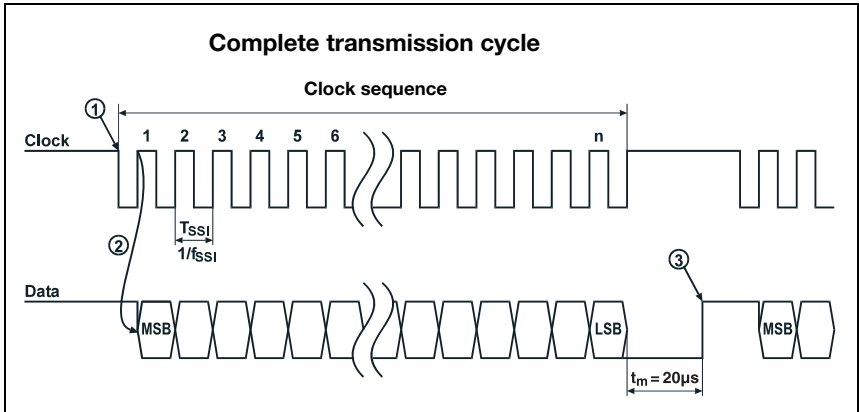

Figure 10.1: SSI data transmission sequence diagram
In the quiescent state both the clock line as well as the data line are at HIGH level. At the first HIGH-LOW edge (point ① in figure 10.1) the data in the internal register are stored. Thus it is ensured that the data cannot change during serial transmission.
When the next clock signal change from LOW to HIGH level (point ② in figure 10.1) occurs transmission of the position value begins with the most significant bit (MSB). With each successive change of the clock signal from LOW to HIGH level the next least-significant bit is transmitted on the data line. After the least significant bit (LSB) has been output, the clock signal switches from LOW to HIGH for one last time and the data line switches to LOW level (end of transmission).
A monoflop retriggered by the clock signal determines the time span before the SSI interface can be called for the next transmission. This results in the minimum pause time between two successive clock cycles. If time $t_m = 20\mu\text{s}$ has elapsed, the data line is returned to the quiescent level (HIGH) (point ③ in figure 10.1). This signals completed data communication and that the device is again ready for transmission.